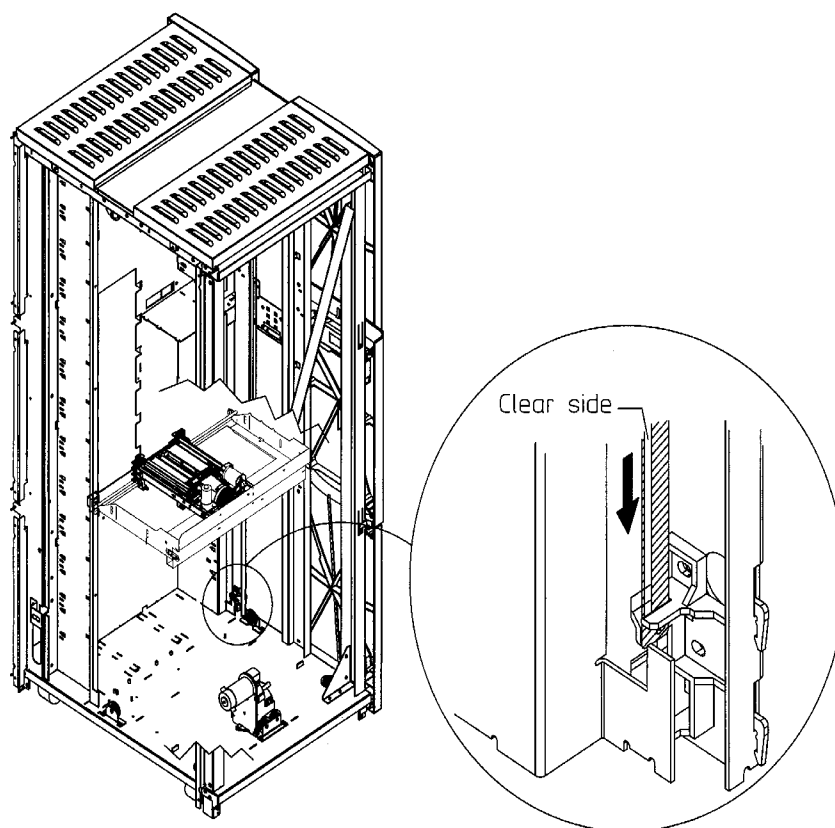

Figure 68: Releasing the Lower End of the Vertical Encoder Strip
4. Unhook the encoder strip and hang it out of the way (see Figure 68).
Caution: Handle the encoder strip with care and **ONLY BY THE SOLID SIDE** (see Figure 68). The **CLEAR** side is made up of very fine slits and **CAN BE EASILY DAMAGED**.